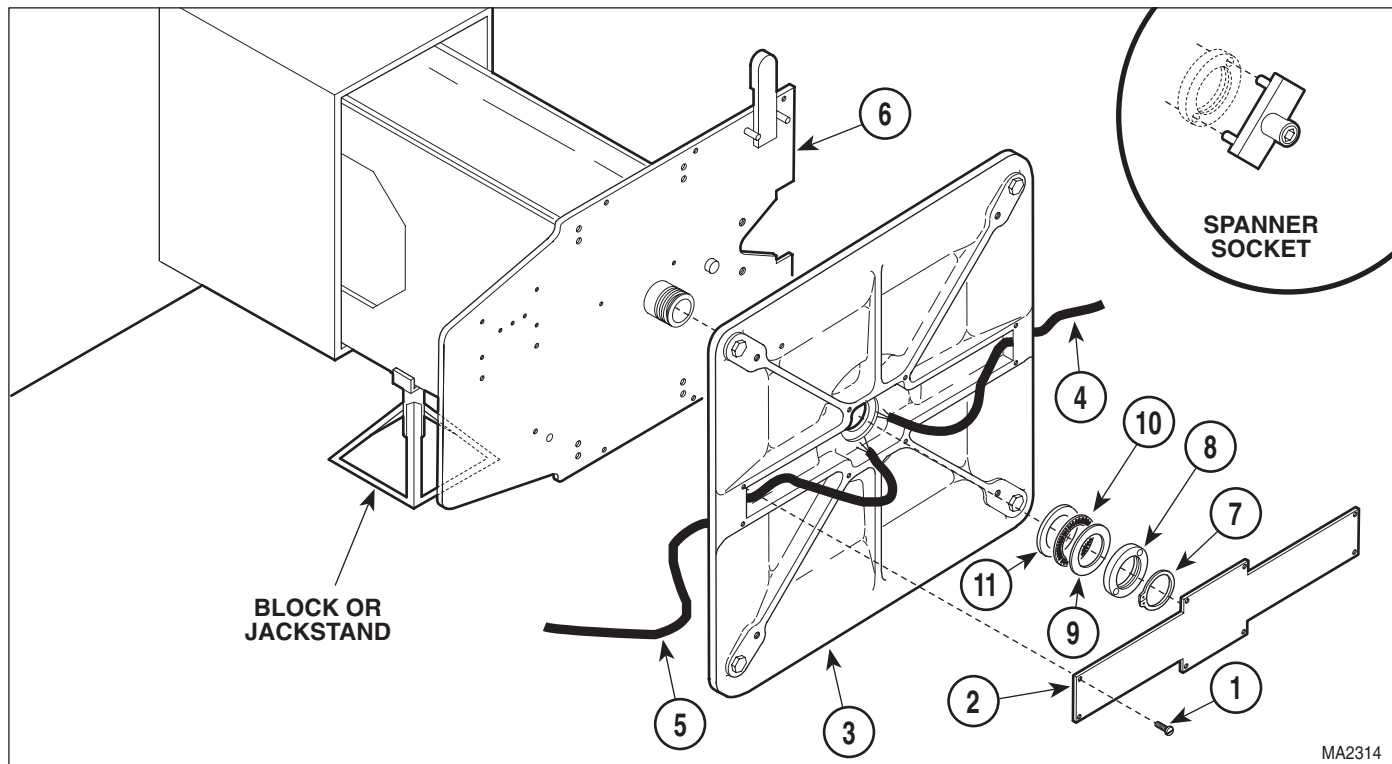

Figure 4-43. Rotational Base Removal / Installation
- (14) With help of an assistant, lay table onto its left (patients left) side and block base of table off of floor by putting a block/jackstand under base slide assembly. See Figure 4-43.
- (15) Remove eight screws (1, Figure 4-43) and cable cover (2) from rotational base (3).
- (16) Pull wire harnesses (4 and 5) out thru bottom of platform base weldment (6).
- (17) Remove retaining ring (7) from platform base weldment (6).
- (5) Install table rotation bearing (2) and rotation stop plate (3) on rotational base (4), making sure stop plate post (6) goes thru rotation stop plate to hold rotation stop plate in position.
- (6) Coat threads of two screws (1) with removeable threadlocking adhesive (Loctite 242).
- (7) Secure table rotation bearing (2) with two screws (1).
- (8) Coat mating surfaces of thick bearing washer (11, Figure 4-43), thrust bearing (10) and thin bearing washer (9) with high temperature grease.
- (9) Coat threads of rotation nut (8) with removeable threadlocking adhesive (Loctite 242).